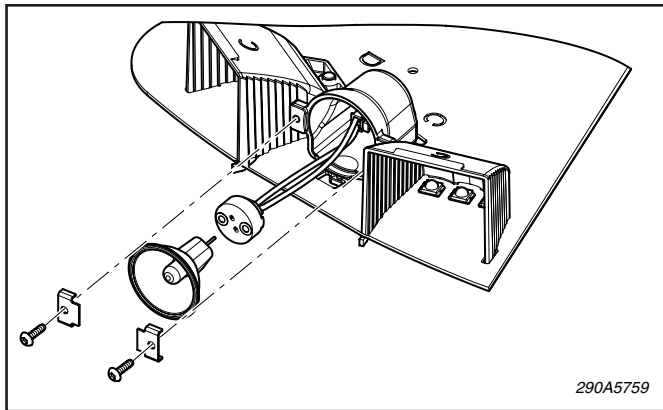

Figure 3.
c. Alley lamps: See figure 3. Remove the 8 PCB screws and invert PCB to access the lamp. Using a 1/16" hex key, remove the lamp retaining screws and clamps. Slide lamp and socket from housing just far enough to grasp socket (it may be necessary to unplug connector to gain adequate slack in leads). Holding socket firmly, unplug lamp. See the replacement parts and replace the defective lamp with an exact replacement only. Assemble in reverse order. Do not overtighten screws and nuts.